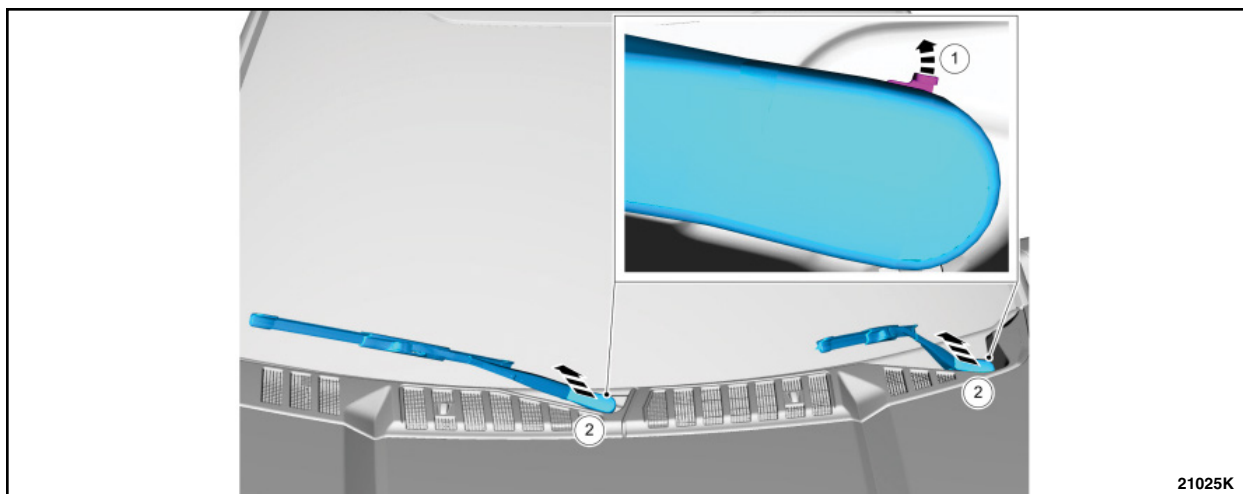

FIGURE 2
2. Remove the windshield wiper pivot arms. See Figure 2.